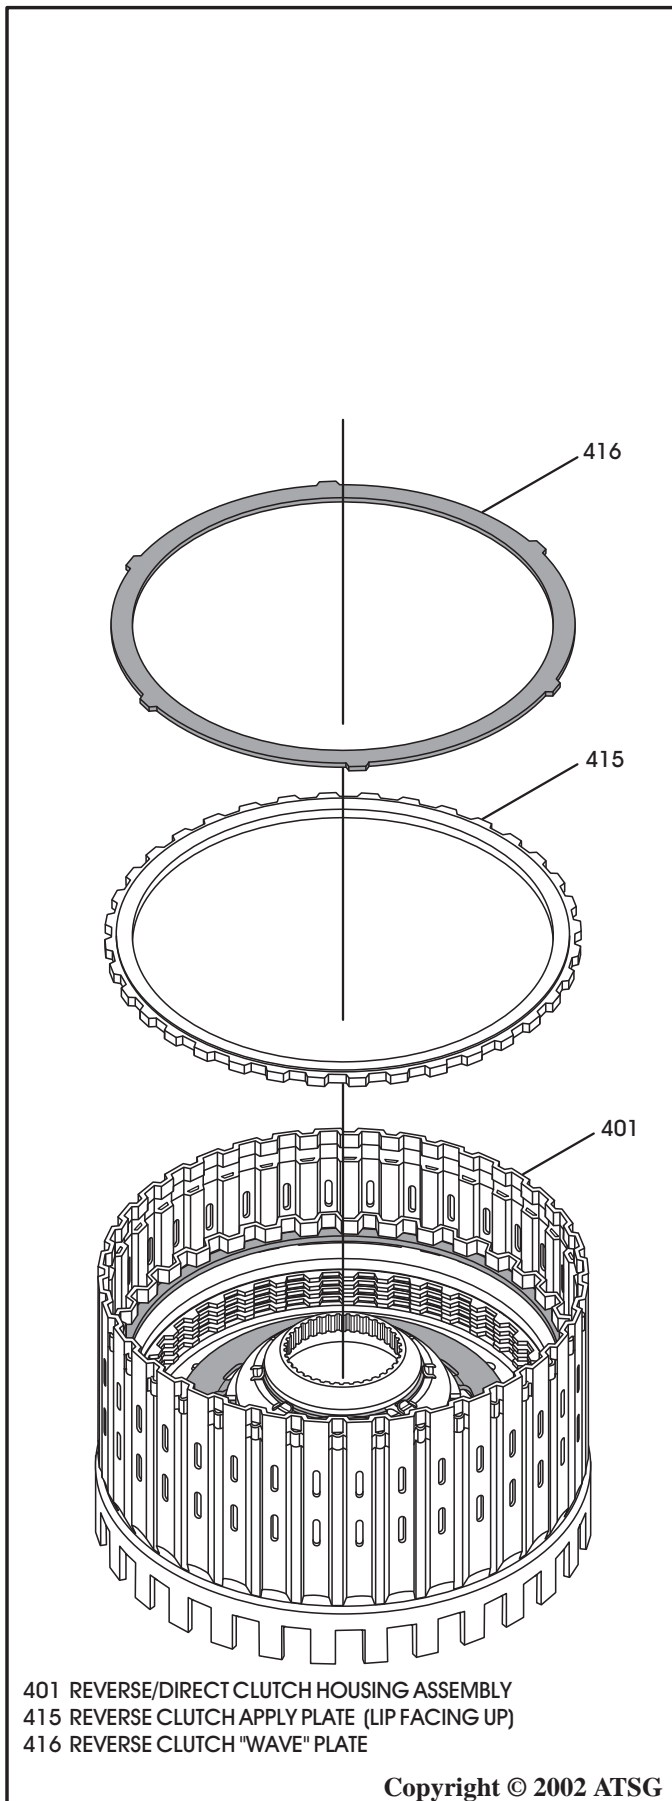

Figure 81
20. Install the reverse clutch apply plate with the lip facing up, as shown in Figure 81.
21. Install the reverse clutch "Wave" plate on top of the apply plate, as shown in Figure 81.